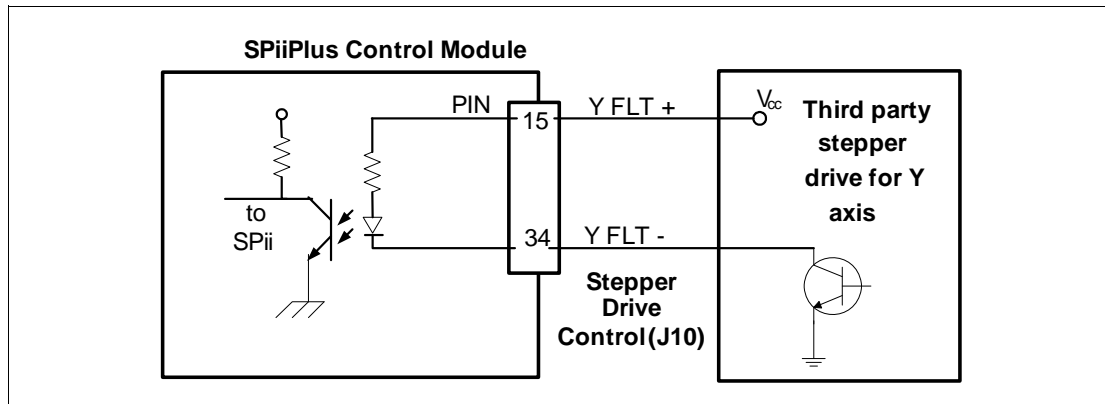

Figure 32 Connection To Drive With Sink Fault Output (Y axis)
- ❑ **Figure 32** is an example of a **sink** fault input. When the drive sends fault signal V_SUP_IO (5/24V), the controller detects a drive fault has occurred.